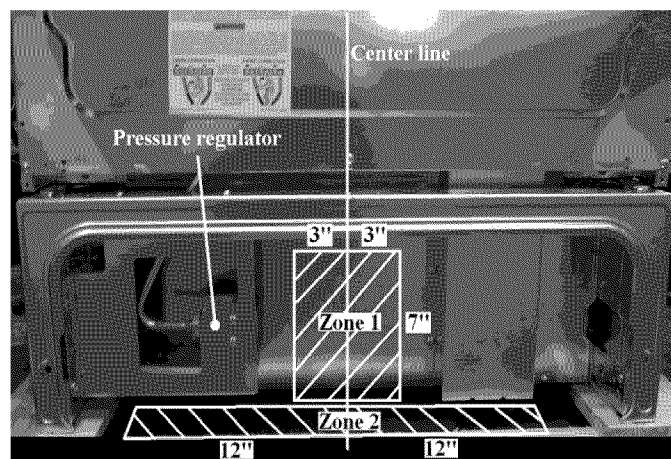

Figure 8
**The gas supply piping can be through the back wall (Figure 8, zone 1) or through the floor (Figure 8, zone 2):**